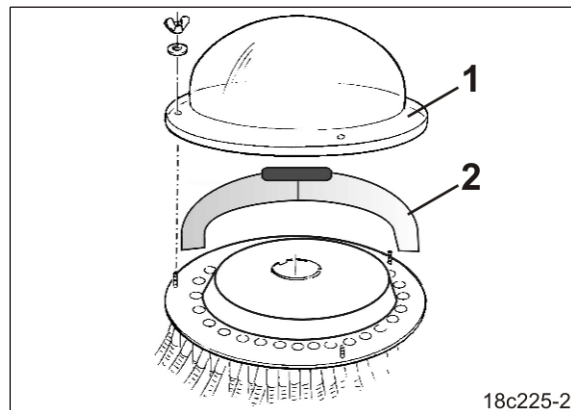

Fig. 156
1. Remove the outer distributor cover (Fig. 156/1).
2. Fit the insert (Fig. 156/2) so that the seed supply of the respective coulter is interrupted.